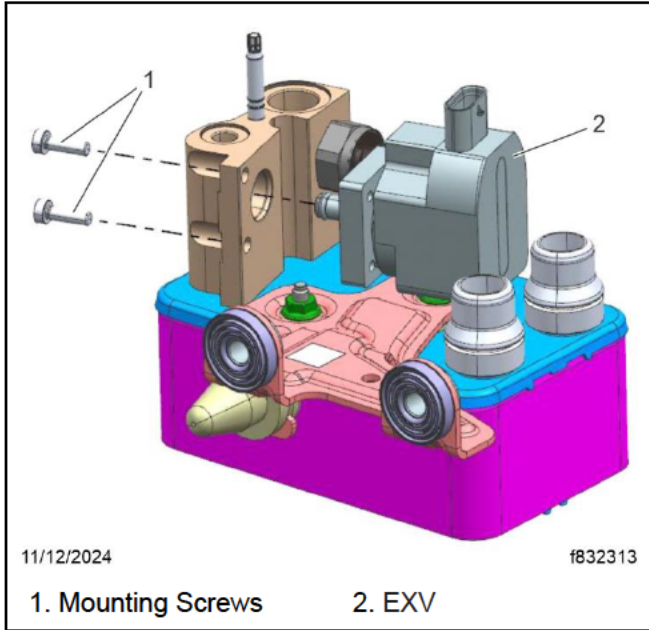

Fig. 7, Removing the EXV
34. Remove the two mounting screws that attach the Electronic eXpansion Valve (EXV) to the **new** chiller. Remove and set the EXV aside. See **Fig. 7**.